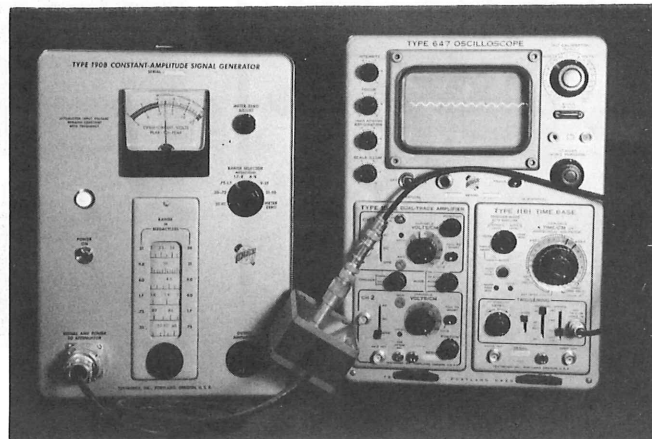

Figure 11
8. Connect a BNC cable from the BNC T adapter to the EXT TRIG or HORIZ IN connector. See Fig. 11.